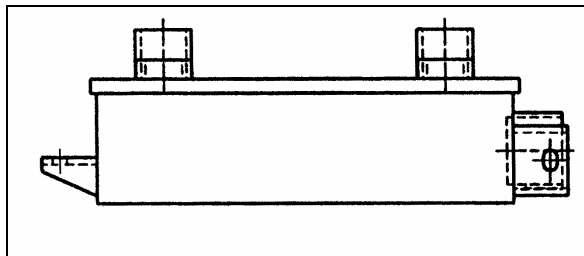

FIGURE 13: COOLER WITH RETARDER 07073
18. Adjust the retarder pressure to  $80 \pm 3$  psi with the air pressure regulator. For more information refer to Section 12, "BRAKE AND AIR SYSTEM", under heading "AIR PRESSURE REGULATOR". The air pressure regulator is located near the Webasto in engine compartment, on R.H. side (Fig. 13).